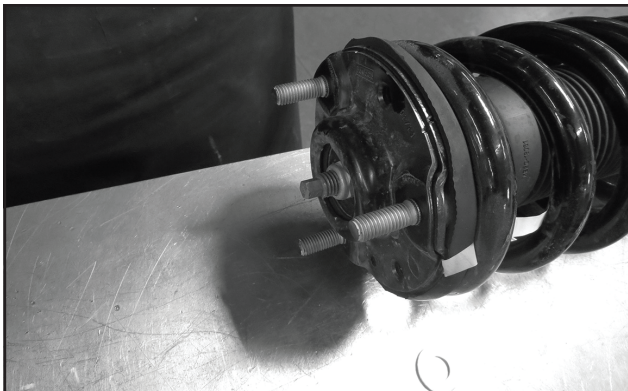

FIGURE 11 - STEP 11
11. Remove 3/8" from the end of all three upper strut assembly studs. **(FIGURE 11).**